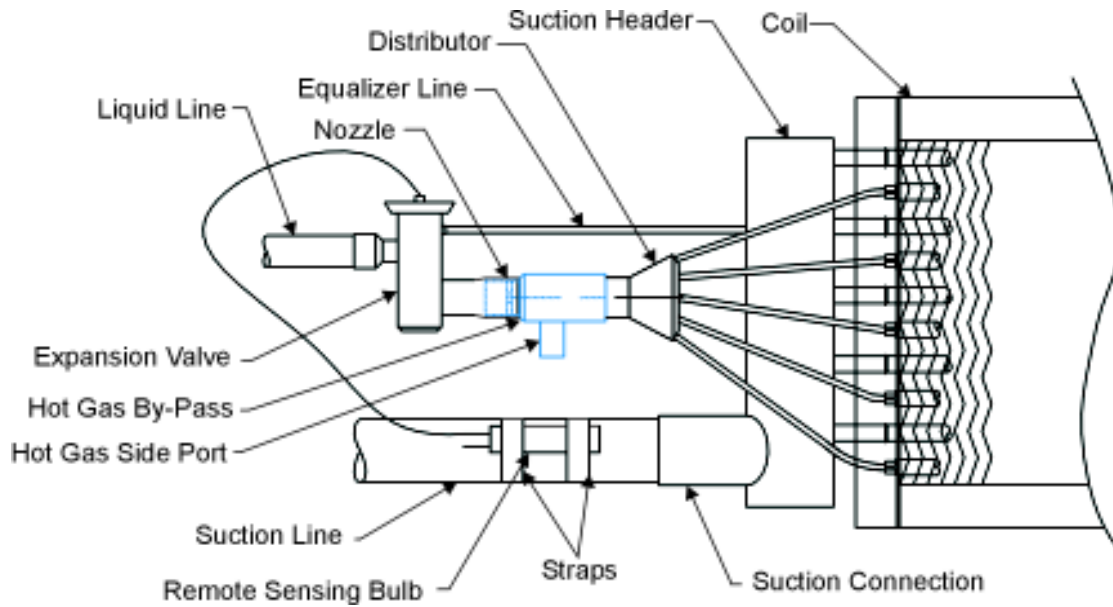
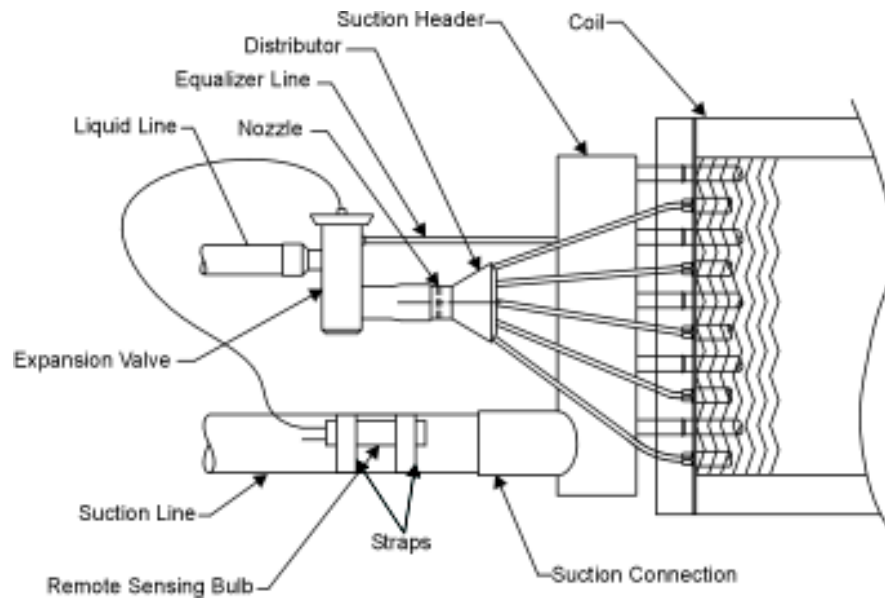

Figure 4 - Hot Gas Bypass Kit Installed
Figure 5 - General Diagram
15. Refer to Figures 4 - Hot Gas Bypass Kit Installed and Figure 5 - General Diagram, for general piping.